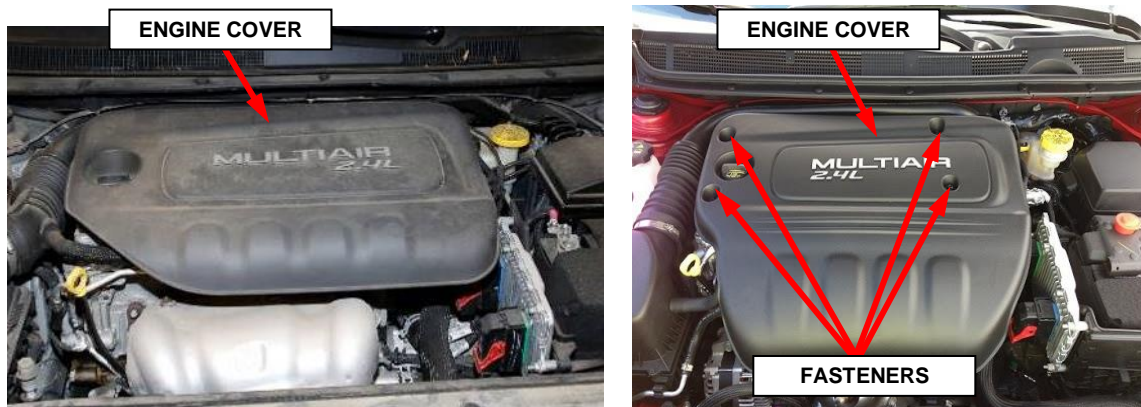

Figure 7 – Engine Cover
13. Release the engine cover from the ball studs if applicable or remove and **SAVE** the four fasteners if applicable, then remove and **SAVE** the engine cover (Figure 7).
34. Position the engine cover onto the ball studs. Using hands only, press down on the top of the engine cover to engage the ball studs (Figure 7).